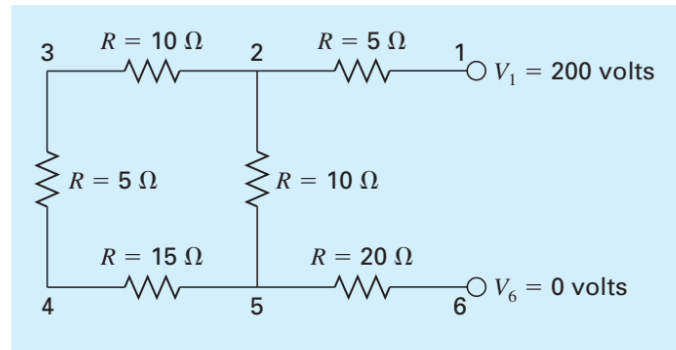

FIGURE P8.14
8.14 Perform the same computation as in Sec. 8.3, but for the circuit in Fig. P8.14.